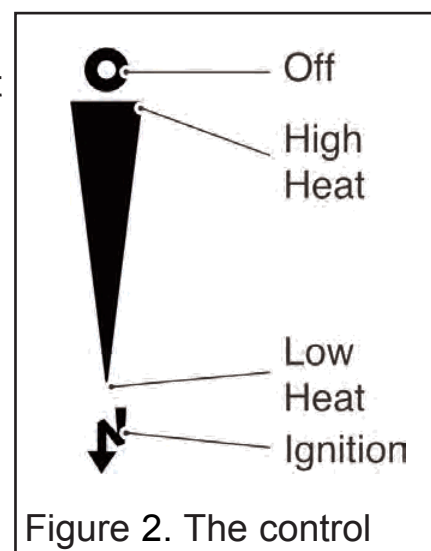

Figure 2. The control
The slide control is shown in figure 2.
3. If low heat is required, release the button. The button will automatically spring up to the low heat position shown in figure 2 (See note i below). If for any reason the slider control does not spring up, raise the slider to the off (O) position (Topmost position) and contact your installer. Do not use the fire until the problem has been rectified.
4. For a higher heat level slide the button upwards. The burner flames and heat output will gradually increase until the button reaches the high heat position shown in figure 2. When the button reaches the high heat position you will feel a check to its movement. **Do not slide the button above the high heat position unless you want to turn the fire off** (See note i below).